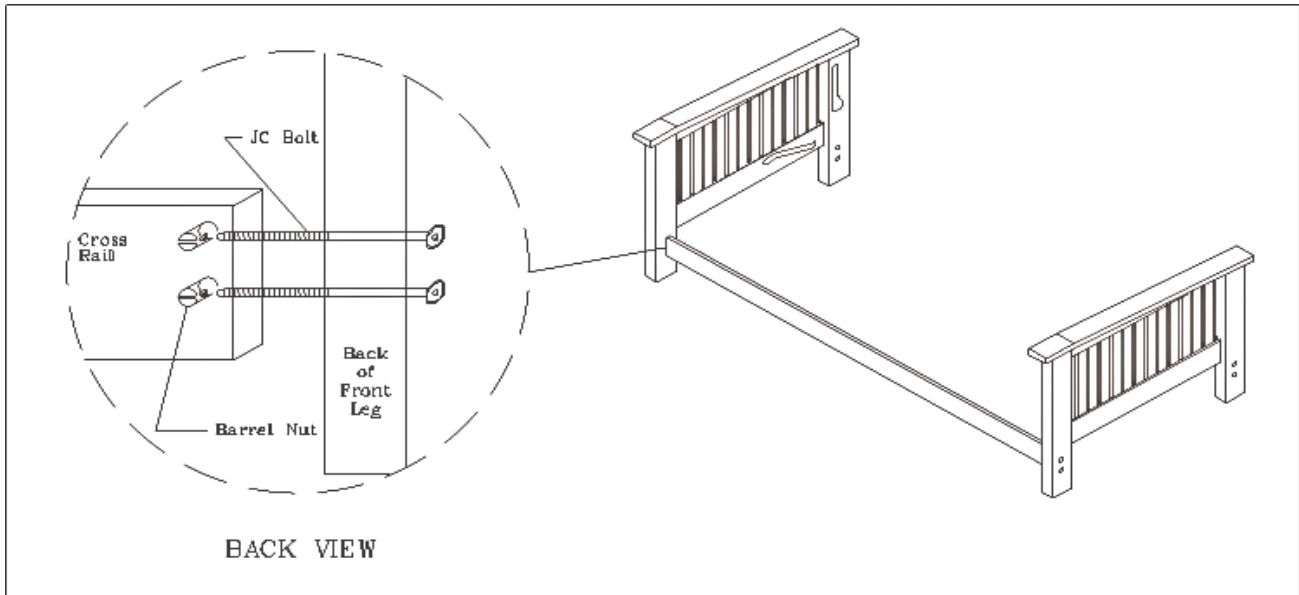

Figure 5
- 6) Locate arm assemblies and one of the cross rails. Place a barrel nut in each hole in side of cross rail. Make sure that the threaded holes in barrel nuts line up with holes in ends of rail and that the slotted end of barrel nut is exposed (Figure 5). Also, make sure that the rail marked “Front” is facing with the metal guards up and the front sticker to the inside of the frame.
- 7) Place a JC bolt through top hole in outside of arm assembly’s lower rail and start it into barrel nut in one of the cross rails. Be sure slotted end of barrel nuts are toward inside of frame. **DO NOT TIGHTEN!** If bolt won’t start, use slotted screwdriver to position barrel nut. Leave about 1/4” of play. Place JC bolt through bottom hole and start it, also leaving 1/4” of play. Repeat procedure for other arm. When all 4 bolts are in place, gently pull back legs apart just past point of armrest being parallel (Figure 5).